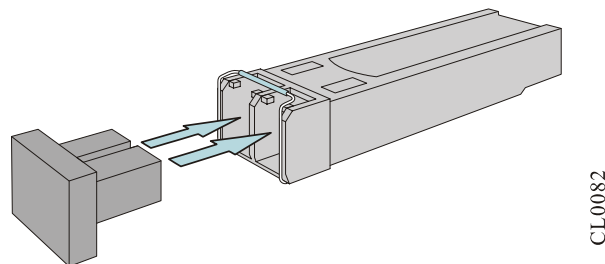

FIGURE 5-4 INSTALL DUST CAP FOR SFP+ MODULE
Step 3: Fit the removed SFP+ module with the dust cap and put it in the anti-static bag or packing box. The diagram of installing the dust cap for the SFP+ module is as shown in Figure 5-4.